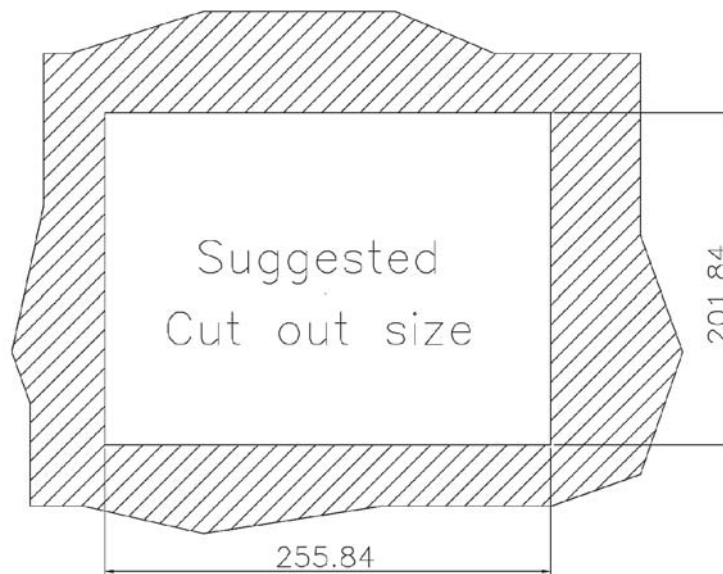
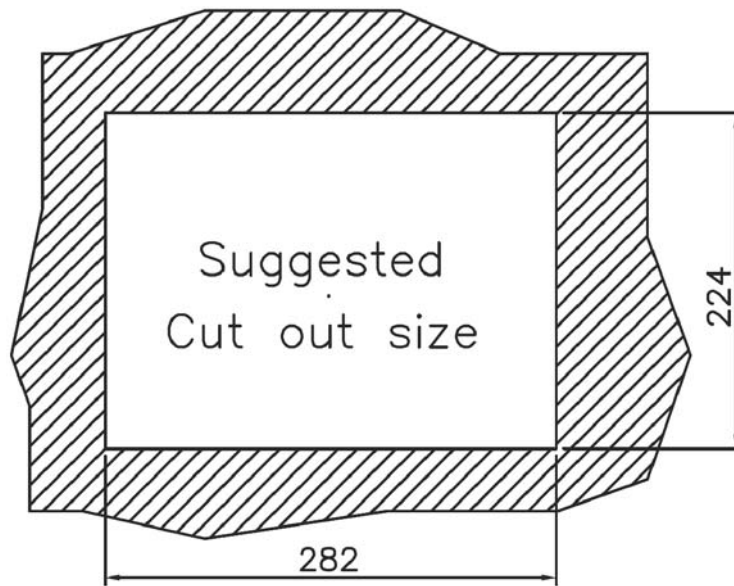

Figure 3-12: AFL-10A-9103-R10 Panel Opening
Figure 3-13: AFL-12B-9103-R10 Panel Opening
Step 2: Cut out a section from the panel that corresponds to the rear panel dimensions of the flat panel PC. Take care that the panel section that is cut out is smaller than the overall size of the metal frame that surrounds the flat panel PC but just large enough for the rear panel of the flat panel PC to fit through (**Figure 3-12** and **Figure 3-13**).